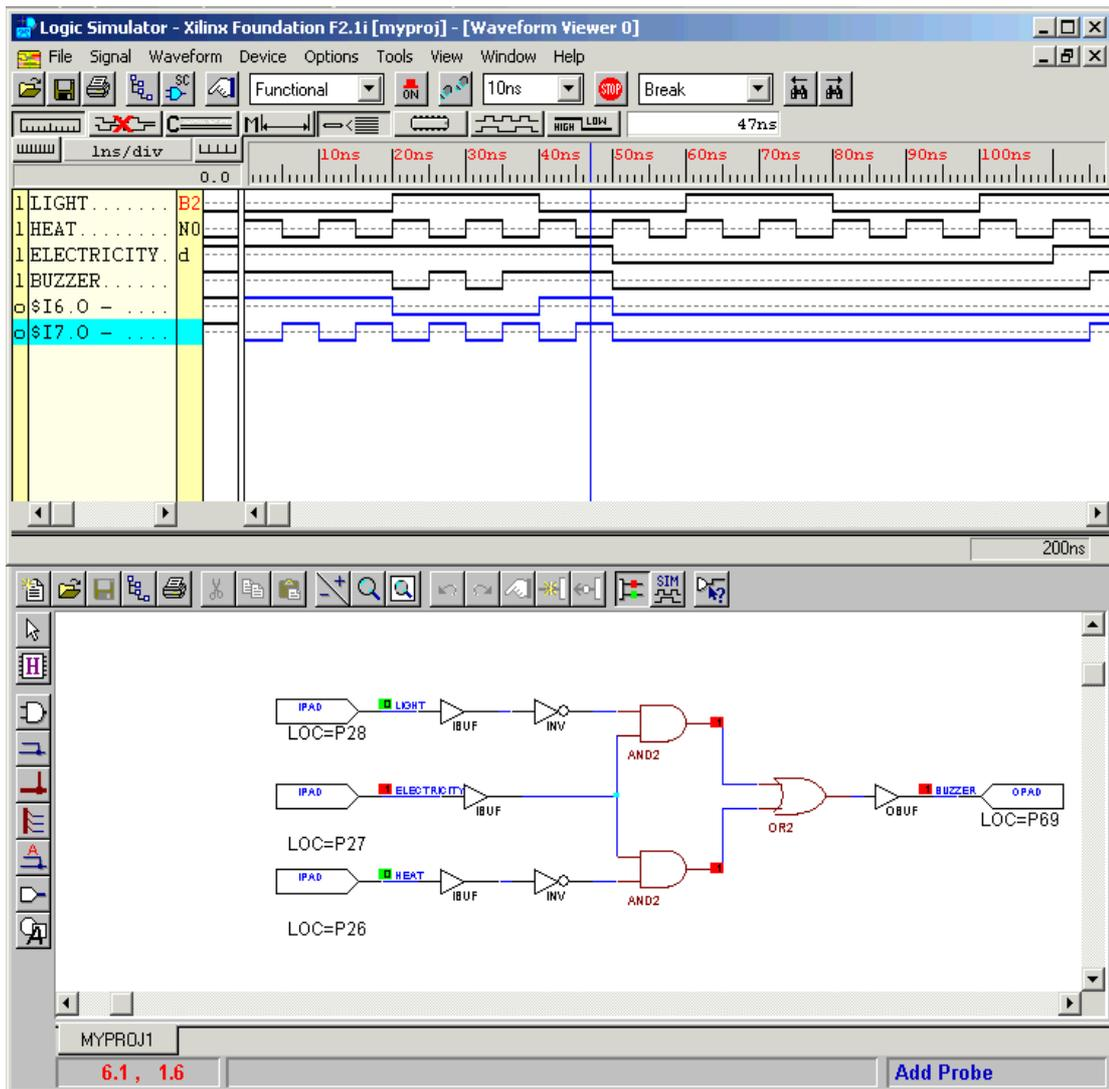

Figure 19: Schematic and its Simulation Output.
2.3.5.4. **Simulating and Viewing the Waveforms** To conduct functional simulation, choose "Functional" from the pull down menu at the top of the simulator window. Then click on the Simulation step icon at the top of the window to initiate the simulation. The inputs and corresponding output waveform are displayed, as shown in Figure 19. To change the size of the step, use the pull down menu next to the step icon. You can also change the scale of the time axis by clicking on the zoom icons on top of the Signal list. An alternative way is to click and drag on the time axis on top of the waveforms pane. The time scale is displayed as well.
You can switch back to the schematics window by clicking on the SC icon in the Simulator window. The schematic window will show the actual logic levels (0 or 1) of each of the signals added to the Waveform Viewer window. The results will be shown on the schematic for the signals you have added to the Waveform Viewer window. You can add additional signals by clicking on the Probe icon in the SC Probes window. Click on the nets that you want to display. Figure 19 shows the results of the simulation in both the Simulator and Schematic windows. The value of the logic signals displayed on the schematic corresponds to the last time step displayed in the Simulator window or to the position of the cursor (47ns in Figure 19). One can also view the values of the logic signals on the schematic diagram. This is another convenient way to check the operation of the circuit.